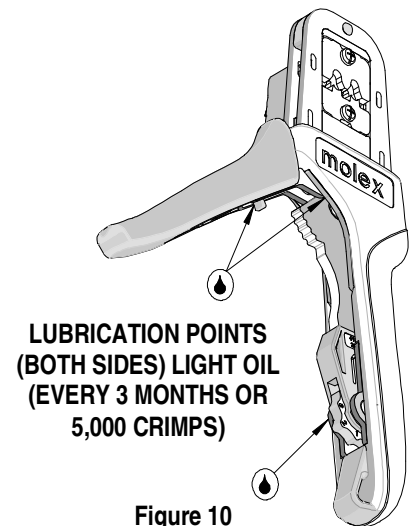

Figure 10
3. Make certain all pins; pivot points and bearing surfaces are protected with a thin coat of high quality machine oil. Do not oil excessively. The tool was engineered for durability but like any other equipment it needs cleaning and lubrication for a maximum service life of trouble free crimping. Light oil (such as 30 weight automotive oil) used at the oil points, every 5,000 crimps or 3 months, will significantly enhance the tool life. See Figure 10.
1. Hold the hand tool in the palm of your hand as shown in Figure 10. Using the index finger squeeze the link towards the top of the hand tool frame. This will release the preload adjustment wheel.
2. Rotate the setting wheel counter-clockwise (CCW) to increase handle force. The numbers will display higher. To decrease handle force rotate the setting wheel clockwise (CW).